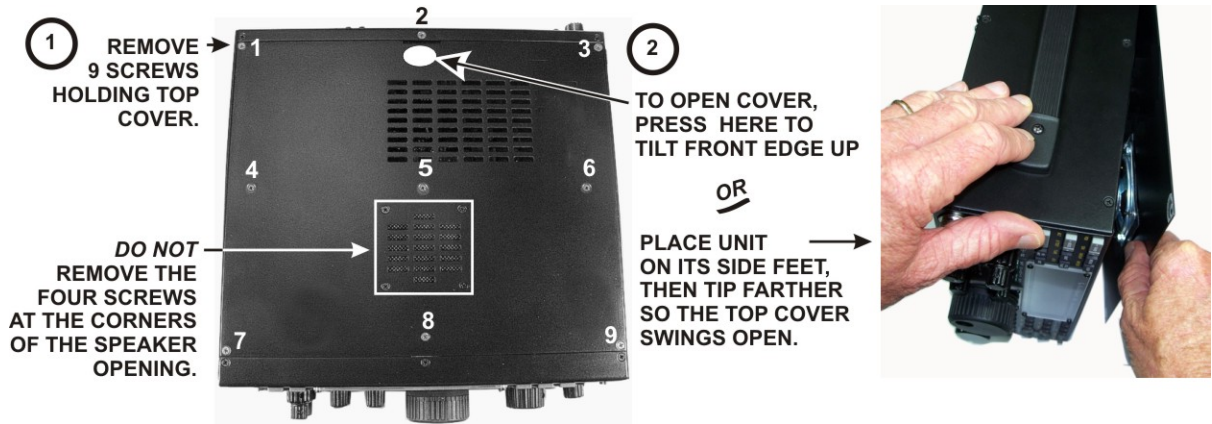

Figure 2. Removing the Top Cover.
- Remove the K3 top cover as shown in Figure 2.
If it's not already off, remove the K3 top cover as shown in Figure 2.